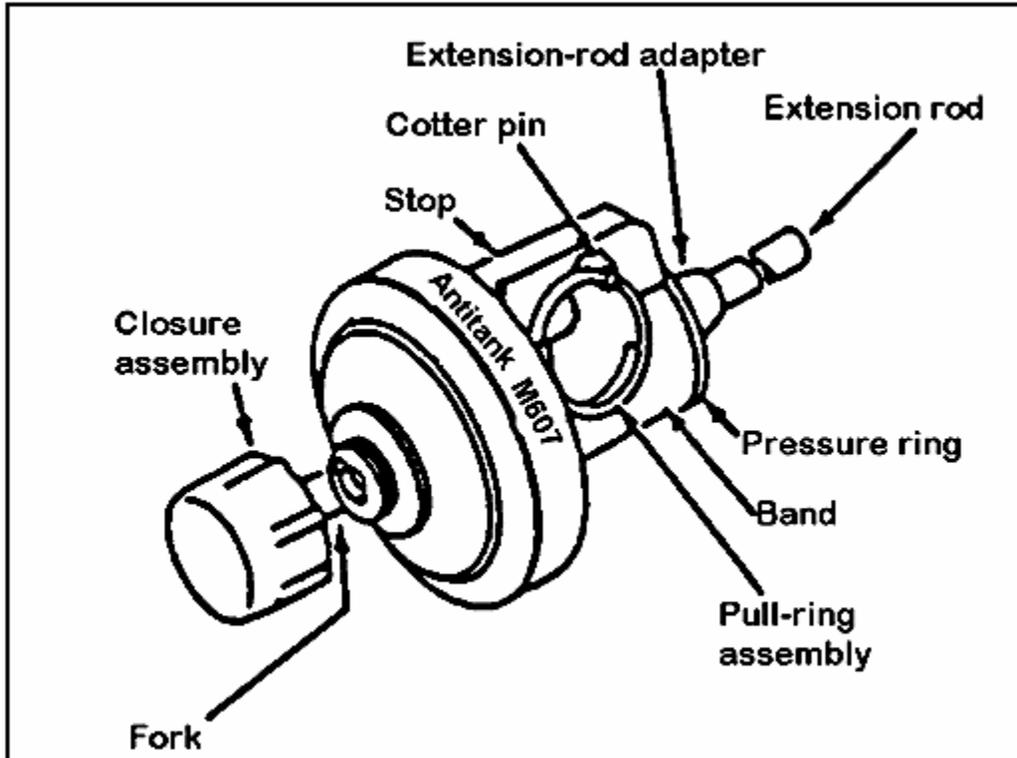

Figure 052-192-1117-1
**Install an M21 Antitank (AT) Mine**
- b. Ensure that there is no obvious damage to the M607 fuze. Remove the closure cap and, while keeping your hand clear, inspect the fuze assembly by removing the D ring (cotter pin) and stop band to ensure that the plastic collar is intact. Rotate the fuze around the U-band in a 360-degree circle, inspecting the entire fuze (Figure 052-192-1117-1).